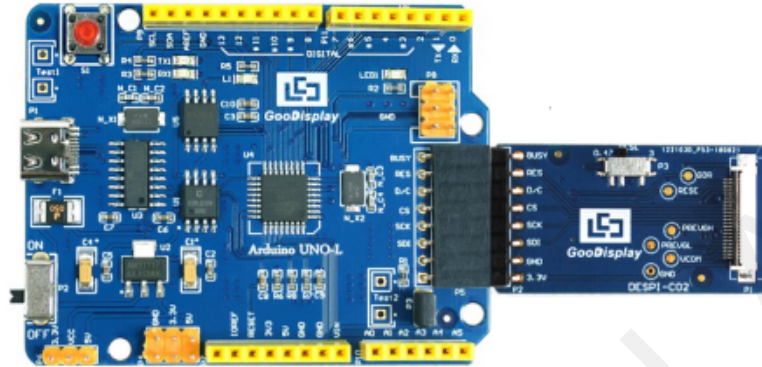

Figure 3 : Connection between Arduino UNO-L for EPD and DESPI-C02
1) Connect DESPI-C02 to Arduino UNO for EPD as shown in Figure 3. Connect e-paper FPC to DESPI-C02 as shown in Figure 4. (Pay attention to the direction of the e-paper.)